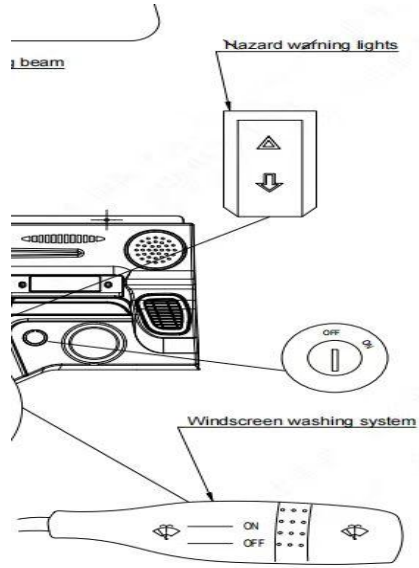

**Figure 2-1 Speedometer**
The charging socket position is shown in figure 2-1.In the meter power display insufficient need to connect the charger to charge the battery.Charging time refer to charger instruction sheet.
**Figure2-1 optional battery model**